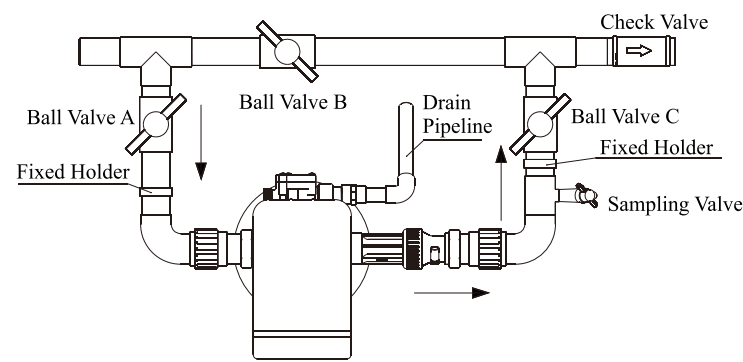

Figure 1-3
**④Pipeline connection**
a.As figure 1-3 shows, install ball valve A, B, C, sampling valve, check valve in inlet, outlet, inlet pipeline and outlet pipeline.
As figure 1-3 shows, glue the drain outlet with UPVC drain pipeline, put drain outlet pipe to sewer as showed in the Figure 1-4.